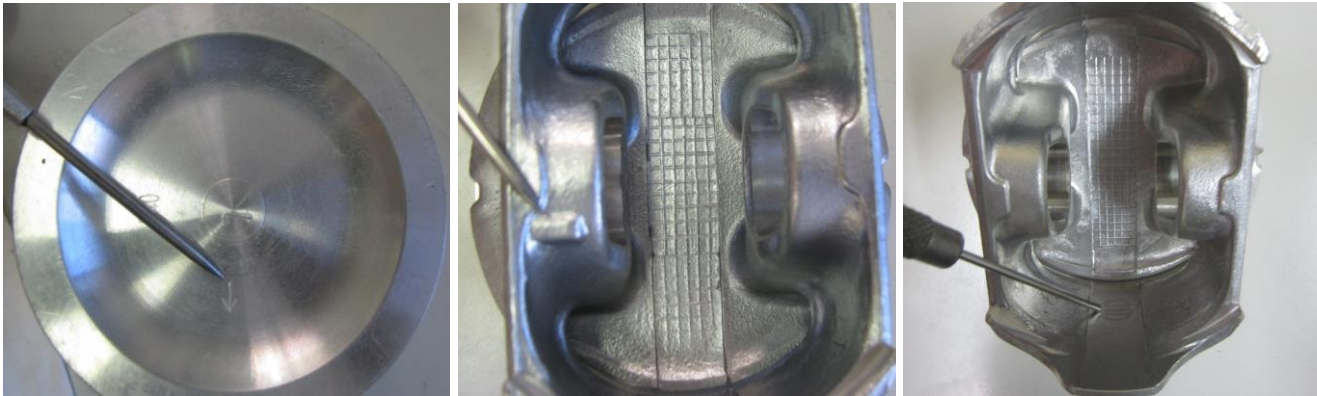

Figure 134 – Thrust Direction Markings for Pistons
- Looking at the underside of the piston there is a cast-in lump on one gudgeon pin housing (see Figure 134). This lump must be fitted to the engine on the side of the connecting rod closest to the propeller flange. Another marking used for the same job is a small arrow or indent cast into the crown. The arrow must point towards the propeller flange and/or the indent must be on the propeller flange side of the connecting rod. These markings show the correct orientation of the piston to the thrust loads from combustion relative to the propeller. In addition, or when the thrust mark is absent for some pistons, the manufacturer's mark  is orientated towards the bottom (sump side) of the engine for the RHS of the engine and towards the top of the engine for the LHS of the engine (from the pilot's perspective), see Figure 134 right image.